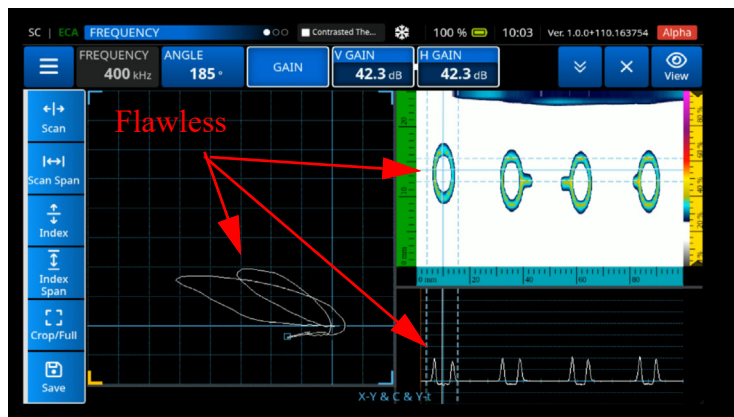

Figure 4-88 Set Fastener Signal to 40% FSH
14. Using the **Gain** setting, set the flawless fastener signal at **40% FSH** (See Figure 4-88 on page 183).